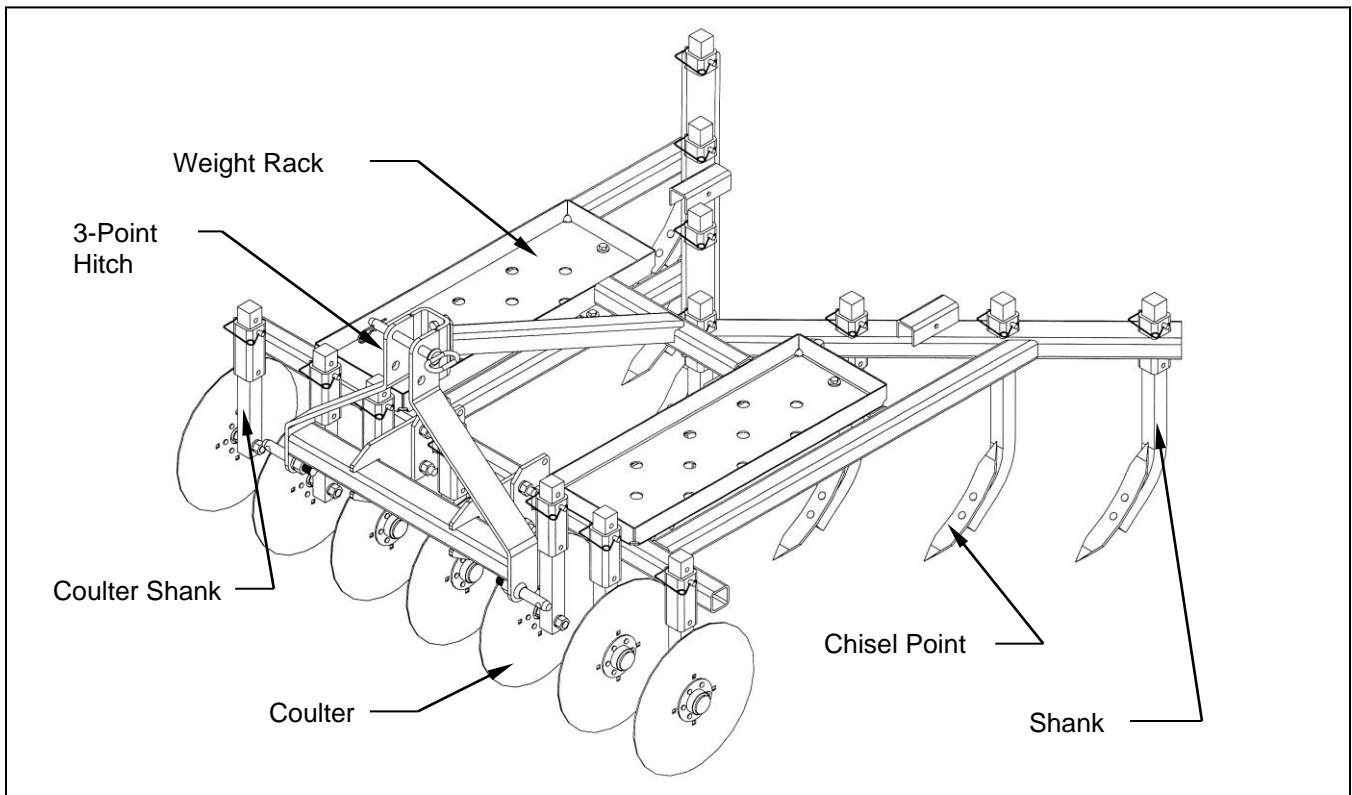

Figure 1. – Tillage Tool Parts
1. The crated tillage tool should have arrived in a vertical position. Lay the crate down with the coulters and chisel points towards the ground. (**See Figure 1.**) Remove the crate.